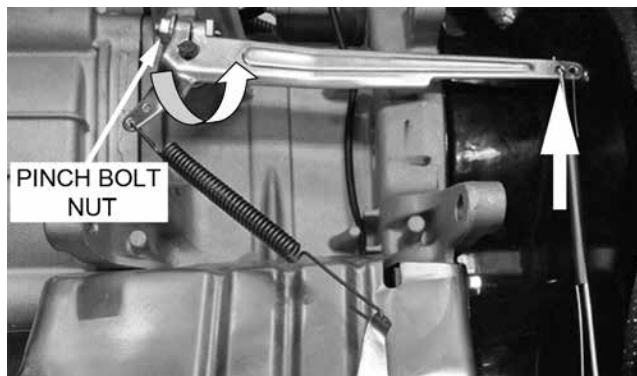

Figure 30.
3. Set Governor Arm and Shaft by rotating the arm in the direction shown to the wide open throttle position. Rotate the Shaft counter-clockwise until it stops. (See Figure 30)